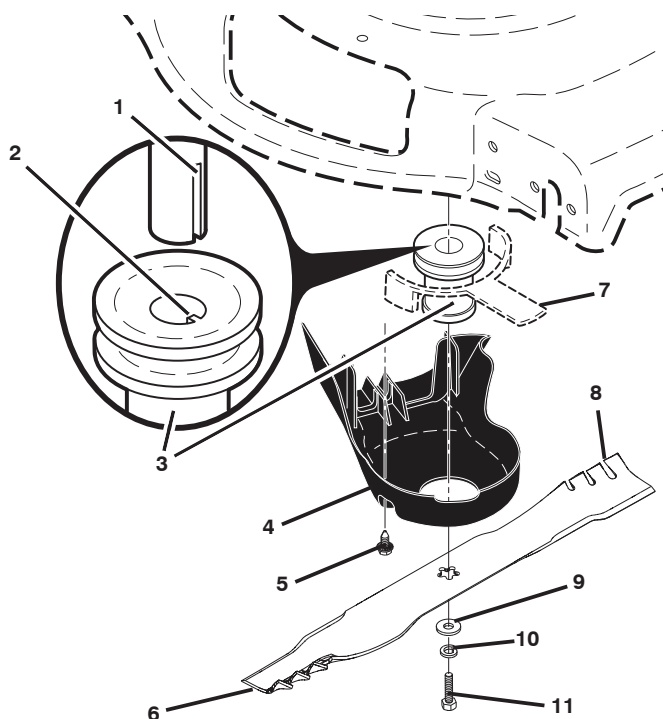

Figure 20
4. Remove blade bolt by turning counter-clockwise (Figure 20).
1. Position the blade adapter on the engine crankshaft. Be sure key in adapter and crankshaft keyway are aligned; and that the drive belt is inside the tabs of the belt retainer (Figure 20).